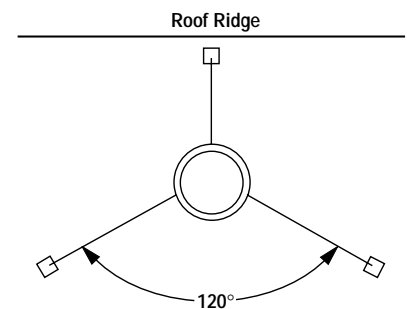

Figure 33
Note: If chimney extends more than 8' above roof surface, guy wires are also recommended. Use three (3) guy wires, attach to locking band assembly, extend and secure to roof in a triangular pattern (**Figure 33**). Guy wires are not supplied by the manufacturer.